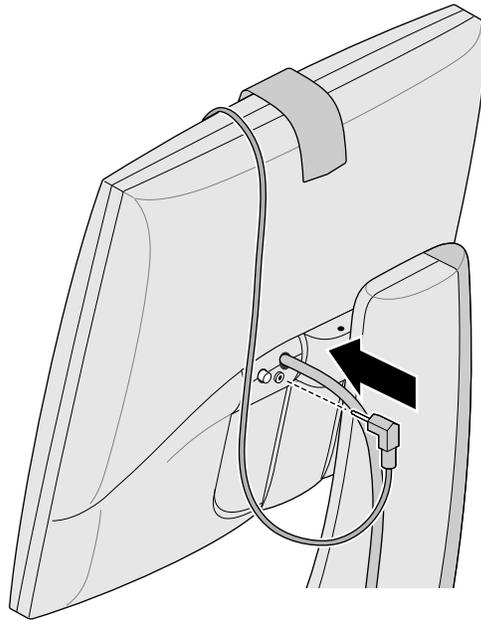

Figure 2-5 Connecting the ColorLock Sensor Cable to the Flat Panel Monitor
3. Plug the sensor cable into the sensor port on the back of the flat panel (next to the power port), as shown in Figure 2-5. The sensor port looks like an ordinary headphone jack.